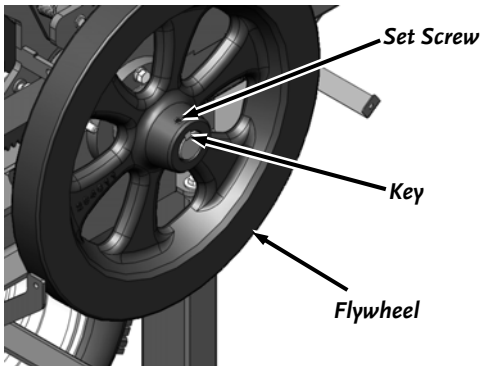

Figure 28
3. Loosen the Set Screws on the Flywheel Hubs and with help from another person pull the Flywheels from the Shafts (**Figure 28**).